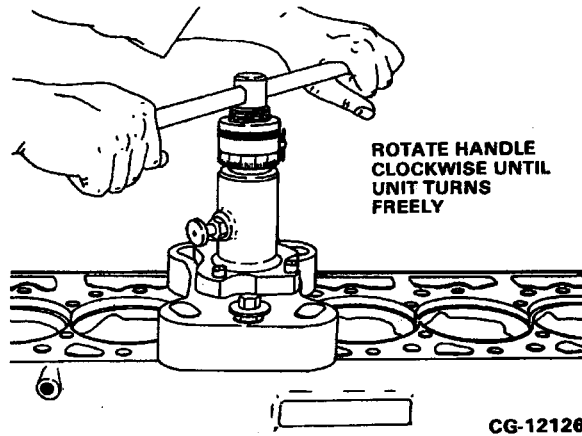

Figure 6.46. Cut the Counterbore
- f. **CUT THE COUNTERBORE** by rotating the handle smoothly in a clockwise direction until the unit turns freely and is bottomed out between the adjusting nut and the top of the driver unit housing. Refer to Figure 6.46.